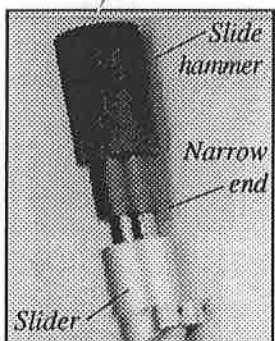

Fig. 21
5. Drive the bushing into the slider with the narrow end of the slide hammer (Fig. 21). The correct bushing insertion will not be flush, but will extend above the inside of the slider about 1/8 inch (3 mm).